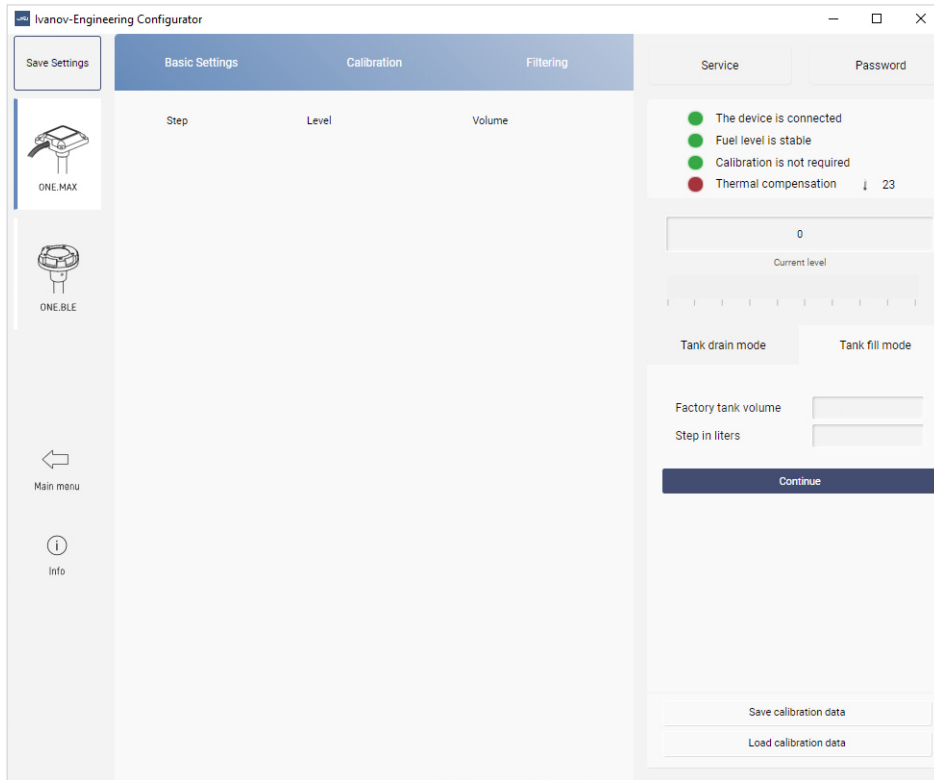

Fig. 27 – The program window with the "Calibration" tab open
- 2) Go to the **Tank fill mode** tab. The calibration section will appear as shown in *Fig. 27*.